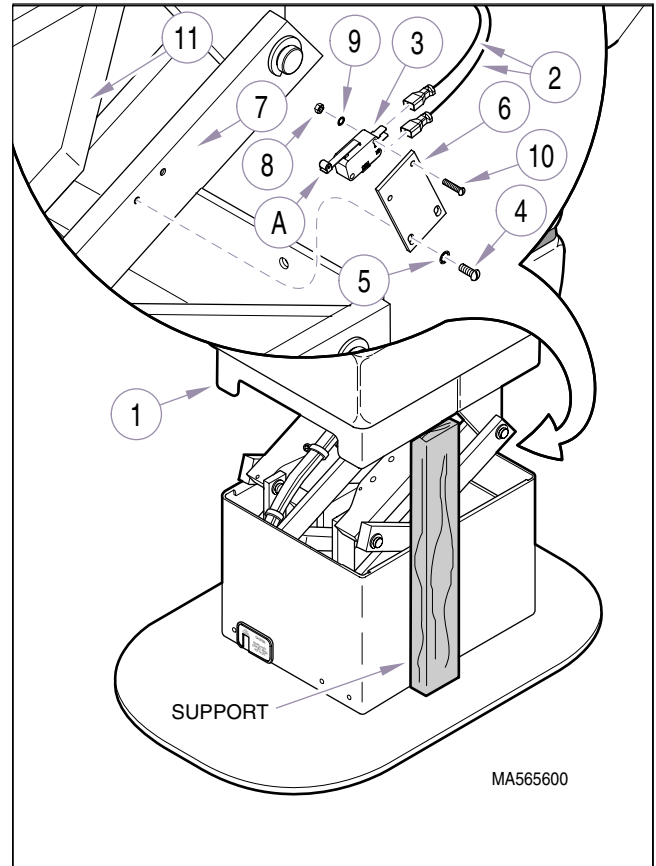

Figure 4-34. Base Up Limit Switch
- (2) Unplug power cord from wall receptacle.
- (3) Raise up outer shroud (1, Figure 4-34) and use a support to hold it there.
- (4) Disconnect two wires (2) from base up limit switch (3).
- (1) Install limit switch (3, Figure 4-34) on switch mount (6) and secure with two screws (10), lockwashers (9), and two nuts (8).
- (2) Install switch mount (6) on column arm (7) and secure with two lockwashers (5) and screws (4). Do not tighten screws (4) at this time.
- (3) Connect two wires (2) to base up limit switch (3).
- (2) Raise base up function all the way up, then lower base down approximately 1/8 to 1/4 in. (3.2 to 6.35 cm).
- (3) Using an offset screwdriver, loosen two screws (4); then slide switch mount (6, Figure 4-34) upward until trip arm (A) of limit switch "just" trips against upper plate (11). Secure switch mount in this position by tightening two screws (4).
- (4) Check limit switch adjustment by running base down function all the way down and then base up function all the way up, making sure base up limit switch trips, stopping the base up function, before the base actuator begins to "freewheel".
- (5) Remove support and lower outer shroud (1) down.
- (6) Plug power cord into wall receptacle.